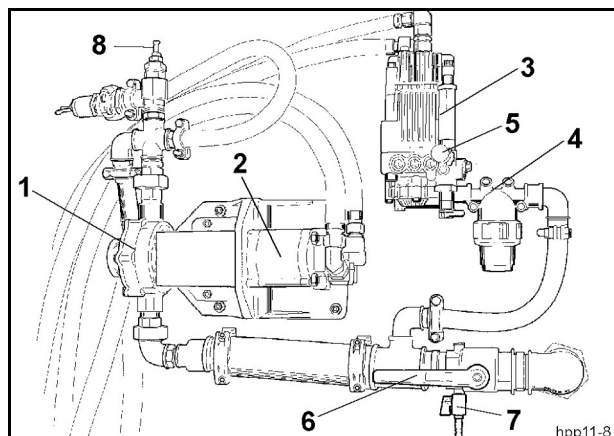

Fig. 112 (Schematic diagram)
- Water pump (1) and high-pressure cleaner (3) (**Fig. 112**).